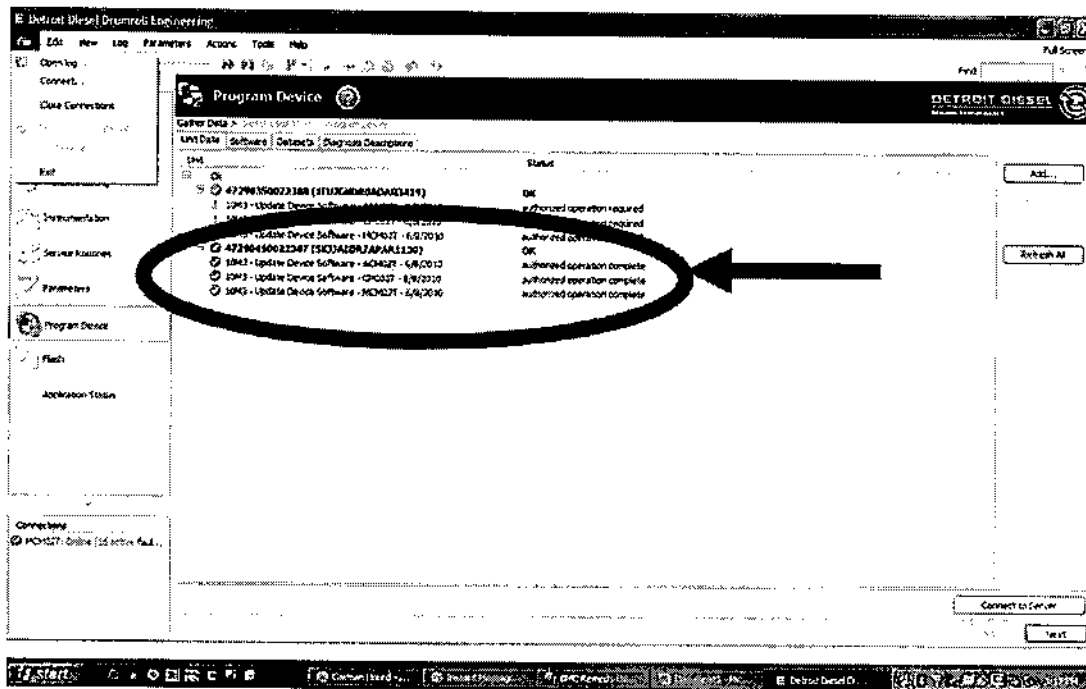

Figure 5 – Completion Of All Programming
17. This will take you to a screen similar to Figure 5. Note the green check mark for example engine serial number 472903S0022388, the green check marks for the ACM, CPC, and MCM, and the remarks stating something similar to “11C4 – Update Device Software” and “authorized operation complete”. Programming is now complete.